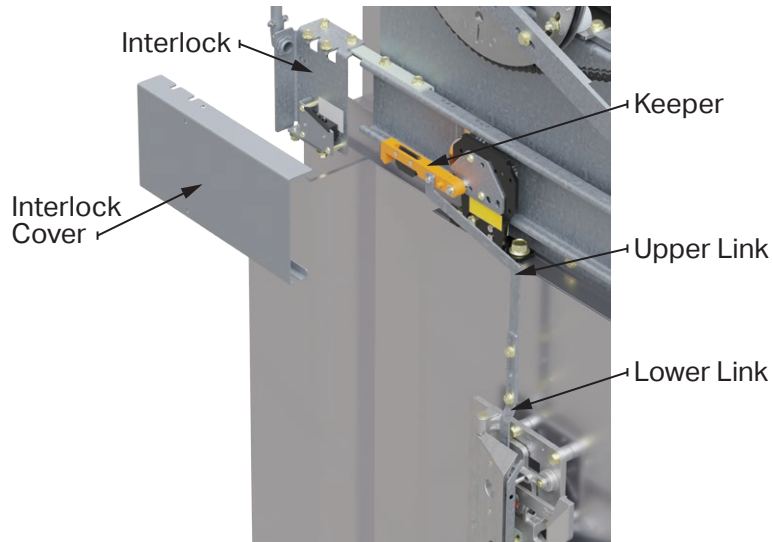

Figure 26: SS Interlock Components
1. See **Figure 26** for side-opening interlock components.
8. Wire contacts to the gate switch terminals on the operator, as shown in **Figure 26**.